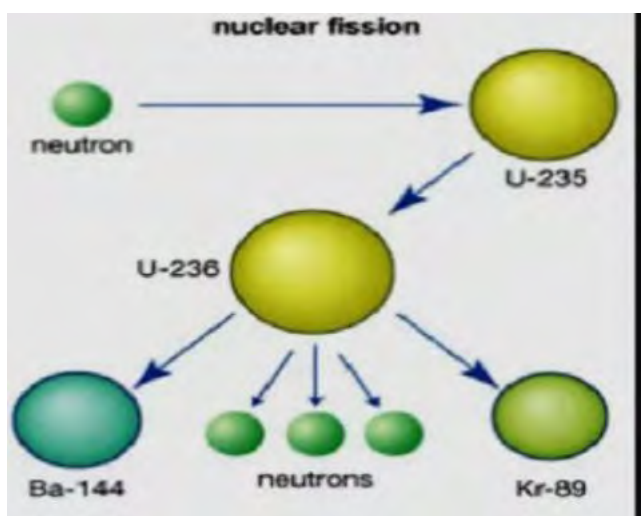

Fig: 1
Figure 1 represents a **nuclear fission reaction**, where, a heavy nucleus like, uranium-235 breaks into two lighter nuclei, barium-144 and krypton-89 along with release of energy and three neutrons. Thus a nuclear reaction where a heavy atomic nucleus splits into two or more lighter atomic nuclei with release of large amount of energy and radiations is called **nuclear fission**. This nuclear reaction that does not normally occur in nature can proceed in a chain. Some other examples, of fission are-
Q. Write the nuclear equation shown in figure 1 & 2.